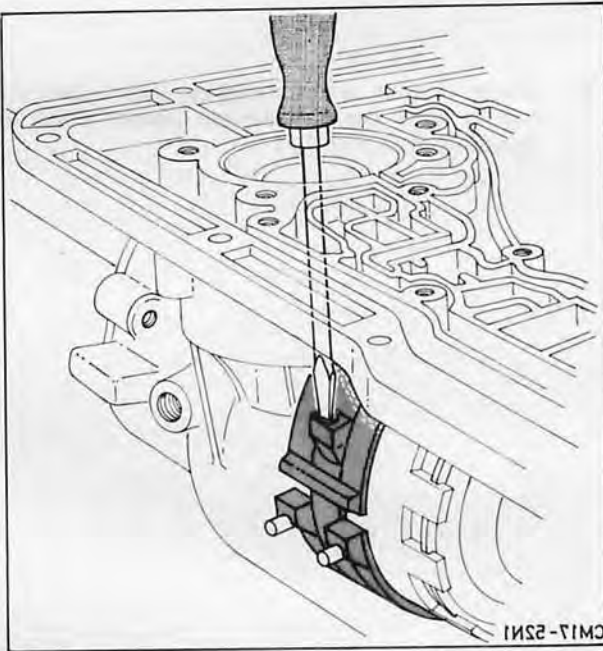

Fig. 114. Check brake band location, using screwdriver through rear servo operating bore
40. Locate rear brake band (with two recesses on abutment pins) in housing. Fig. 114
Then check correct location of brake band, using screwdriver through rear servo operating bore, Fig. 114.